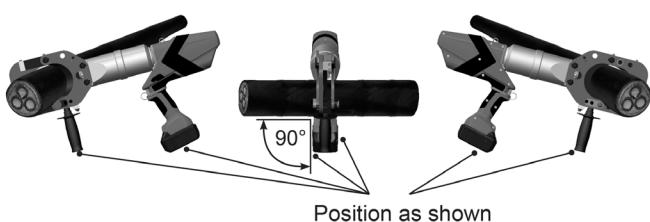

Figure 3
6. Hold tool steady with both hands and maintain a stable stance. Keep the tool at a 90-degree angle to the cable (Fig. 3). to ensure a straight cut. Do not twist work piece or tool during cutting operation, blade failure could result.
11. Set up the tool at a 90-degree angle to Cable (Fig. 3) to ensure a straight cut, making sure the area is clear. Secure tool to limit shifting and twisting during operation and to keep tool from falling during operation.